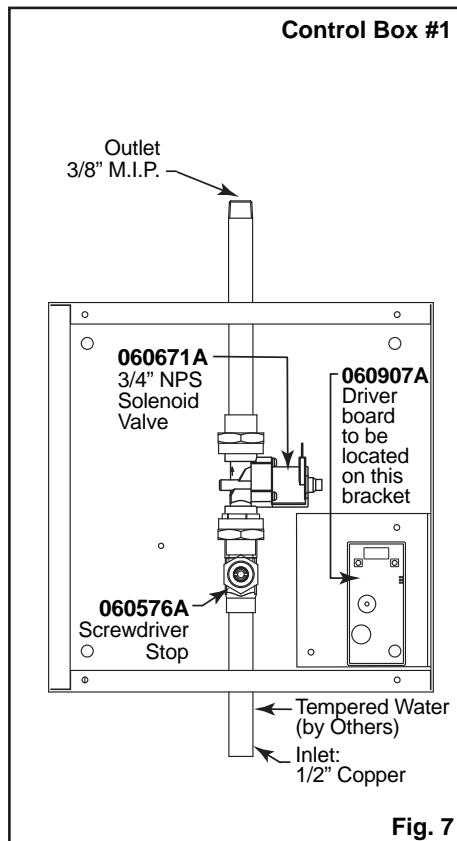
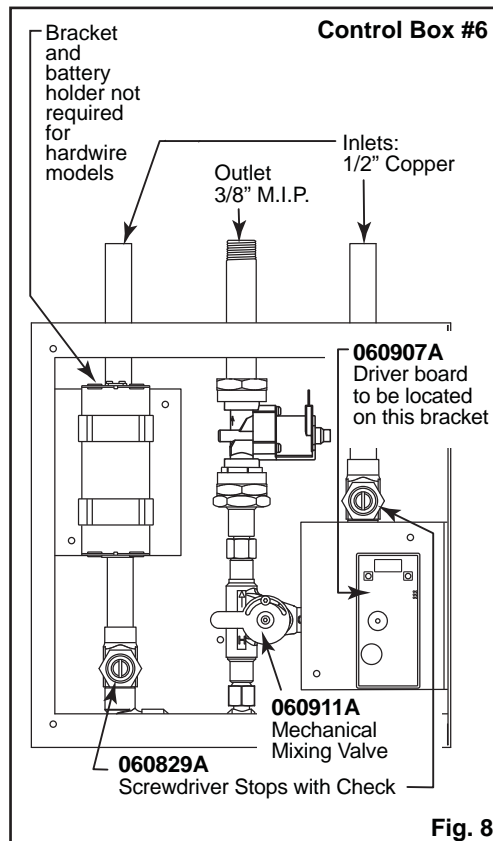
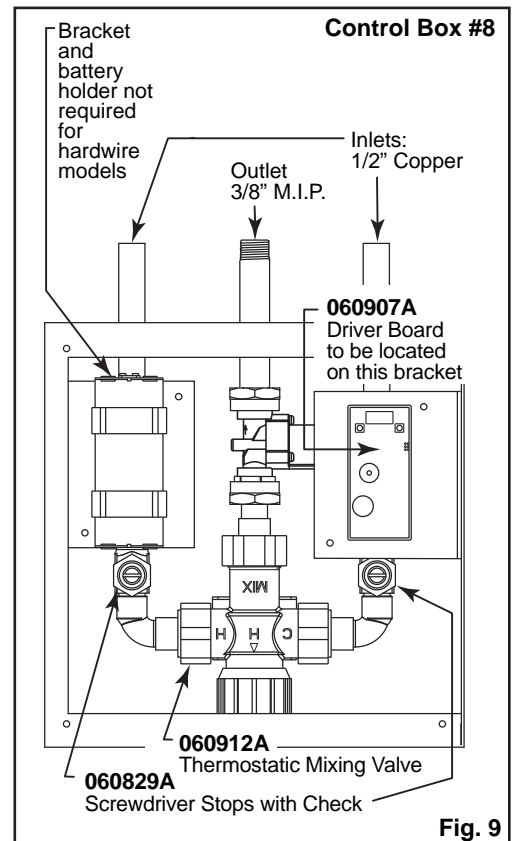

Fig. 7
Fig. 8
Fig. 9
Install sink and connect drainage to rough in. See applicable **Fig. 7, Fig. 8 or Fig. 9**. Please note that the connection tube and fittings are supplied by the **installer** to connect the 3/8" MIP at the box outlet and compression joint for 3/8" O.D. Soft copper tube at the spout. Connect water supply through to spout. Assure supply lines are completely flushed and free of debris.
- 4C** If **Mechanical Mixing Valve** (060911A) (**Fig. 8**). Adjust setting to the desired temperature and lock in place by tightening the vandal resistant screw.
If **Thermostatic Mixing Valve** (**Fig. 9**). Adjust setting of the Thermostatic Mixing Valve to obtain the desired temperature (counter-clockwise to increase temperature - clockwise to decrease temperature) (**Fig. 11**).